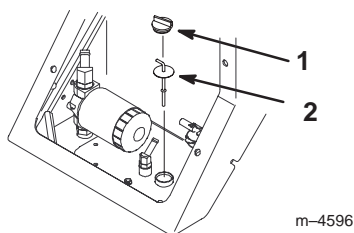

Figure 9
5. Clean the area around the filler neck of the hydraulic tank (Fig. 9).
6. Remove the cap from the filler neck and check the fluid level on the dipstick (Fig. 9).